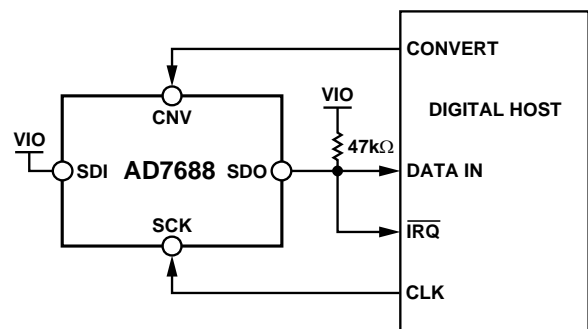
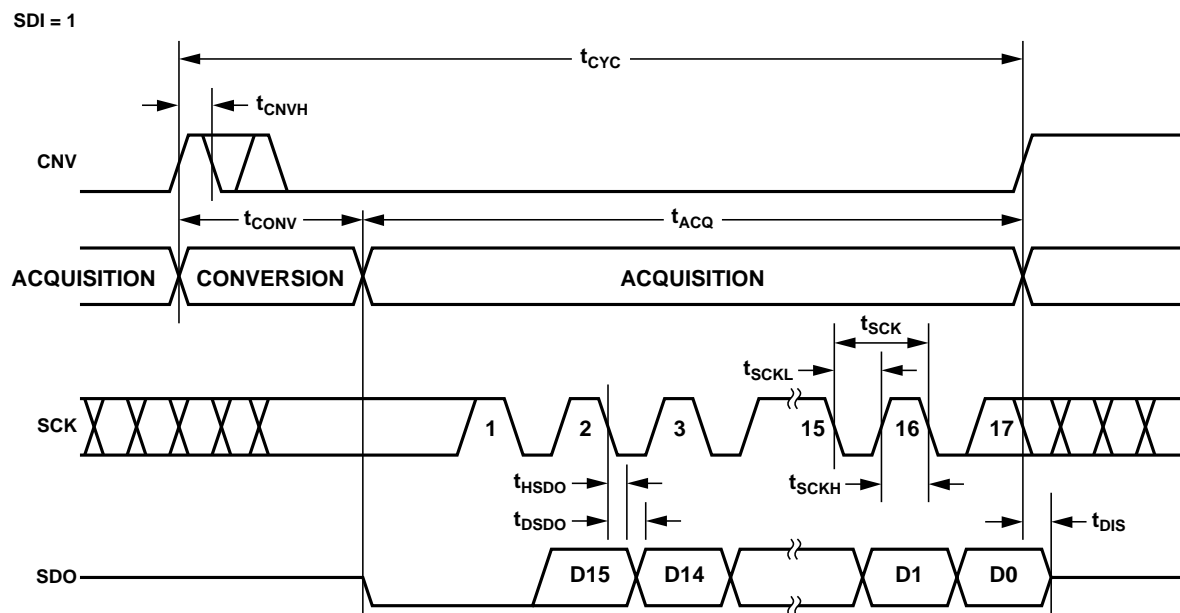
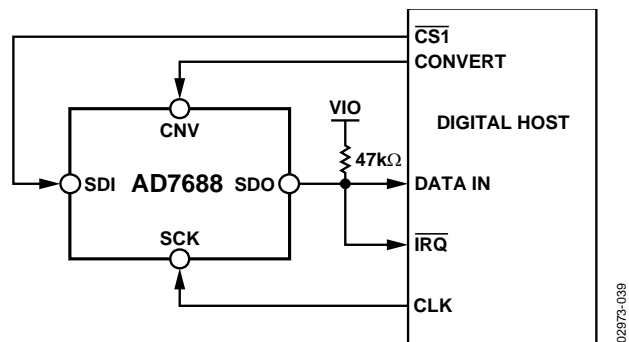
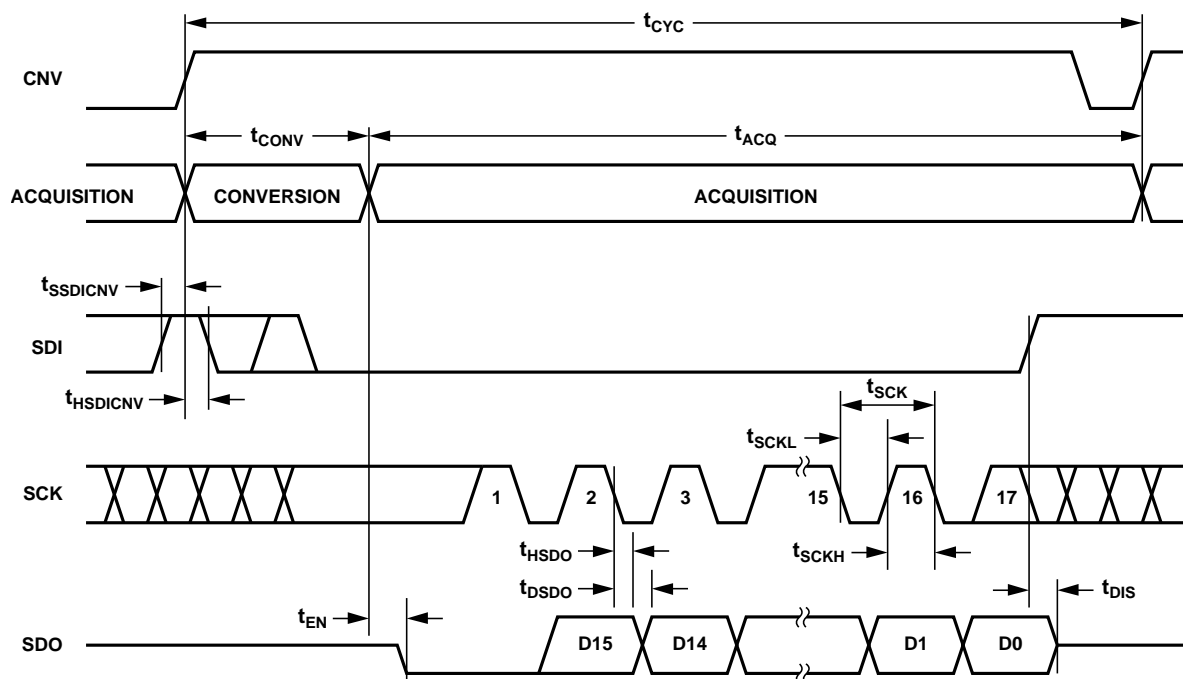

Figure 36. $\overline{\text{CS}}$ Mode 3-Wire with BUSY Indicator Connection Diagram (SDI High)
Figure 37. $\overline{\text{CS}}$ Mode 3-Wire with BUSY Indicator Serial Interface Timing (SDI High)
Figure 40. CS Mode 4-Wire with BUSY Indicator Connection Diagram
Figure 41. CS Mode 4-Wire with BUSY Indicator Serial Interface Timing
- In the \overline{CS} mode, if CNV or SDI is low when the ADC conversion ends (Figure 37 and Figure 41).
The connection diagram is shown in Figure 36 and the corresponding timing is given in Figure 37.
The connection diagram is shown in Figure 40 and the corresponding timing is given in Figure 41.